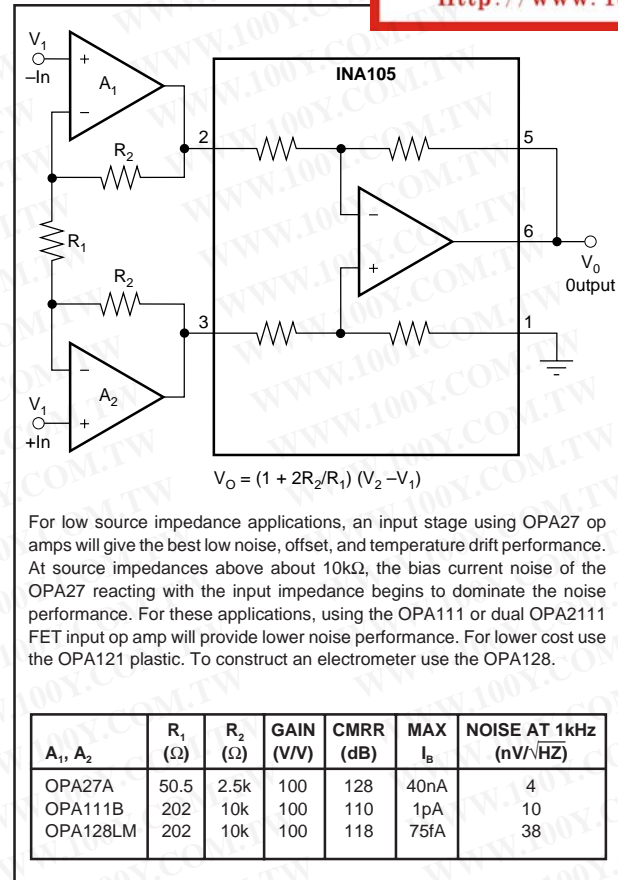

FIGURE 4. Precision Instrumentation Amplifier.
NOTES: (1) Connected as difference amplifier (see Figure 4). (2) Nonlinearity is the maximum peak deviation from the best-fit straight line as a percent of full-scale peak-to-peak output. (3) 25k Ω resistors are ratio matched but have $\pm 20\%$ absolute value. (4) Maximum input voltage without protection is 10V more than either $\pm 15V$ supply ($\pm 25V$). Limit I_{IN} to 1mA. (5) With zero source impedance (see "Maintaining CMR" section). (6) Referred to output in unity-gain difference configuration. Note that this circuit has a gain of 2 for the operational amplifier's offset voltage and noise voltage. (7) Includes effects of amplifier's input bias and offset currents. (8) Includes effects of amplifier's input current noise and thermal noise contribution of resistor network.